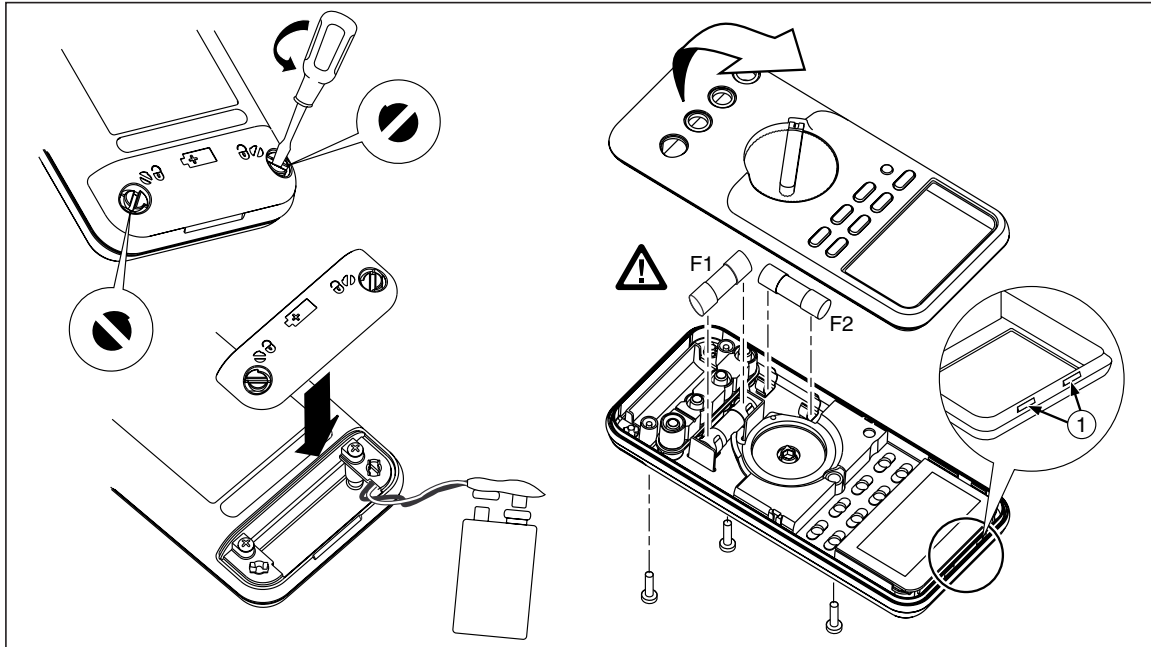

Figure 1. Opening the Meter, Battery and Fuse Replacement
To open the Meter case, refer to Figure 1 and do the following:
6. Gently unsnap the case top at the display end, see Figure 1.
5. Properly seat the case gasket and snap the case halves together above the LCD end. See Figure 1.
Replace the battery as follows, refer to Figure 1:
1. To open the Meter, refer to “Opening the Meter Case”. See Figure 1.